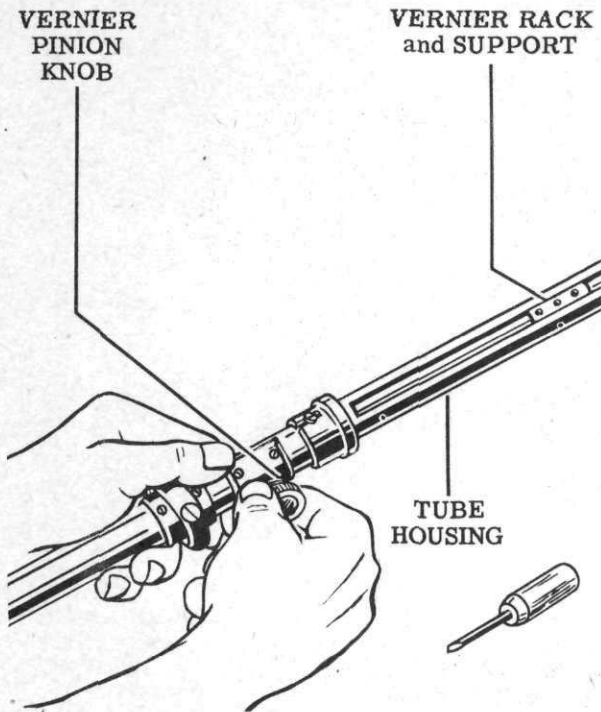

Figure 34
18. Check that the three holes in the tube at the end of the vernier rack and support are exactly centered in the slot in the tube housing for all positions of the vernier rack and support. See Fig. 34. If they are not centered, then adjustment may be made by inserting two small screwdrivers into the